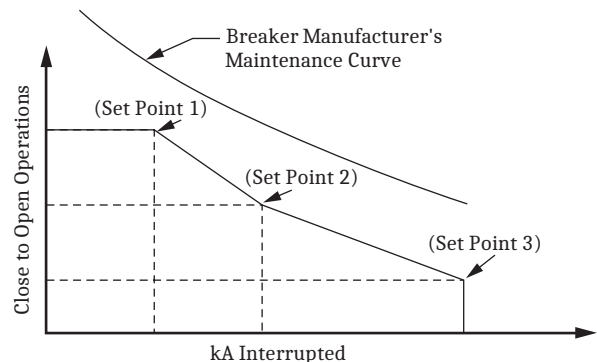

Figure 18 Breaker Contact Wear Curve and Settings
- Every time the breaker trips, the relay integrates interrupted current. When the result of this integration exceeds the threshold set by the breaker wear curve (*Figure 18*), the relay can alarm via an output contact or the optional front-panel display. With this information, you can schedule breaker maintenance in a timely, economical fashion.